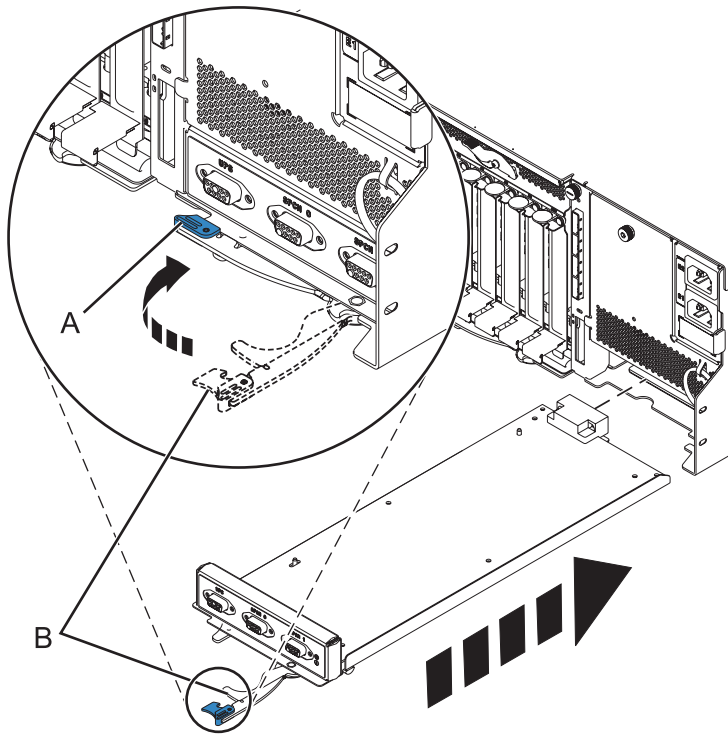

Figure 81. Replacing the enclosure management controller
7. Carefully slide the enclosure management controller into the system and close the latch (A) as shown in Figure 81.